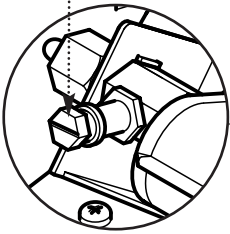

Fig. 13
4. Release the pressure test point sealing screw from the injector adaptor and connect a pressure gauge (Fig. 13).
7. Turn the control knob to the off (●) position. Disconnect the pressure gauge and replace the pressure test point sealing screw, ensuring a gas tight seal (Figs. 13 & 14).